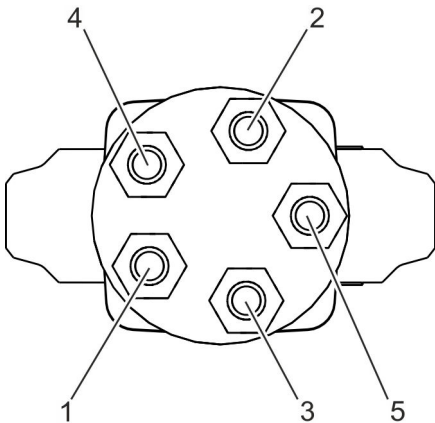

Fig. 6: Unscrew nuts (number of nuts/stud bolts can vary)
1. ➤ Unscrew the nuts on the check valve cover (Fig. 6/1–5).